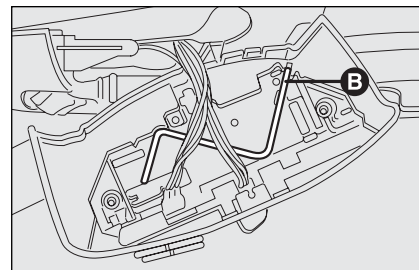
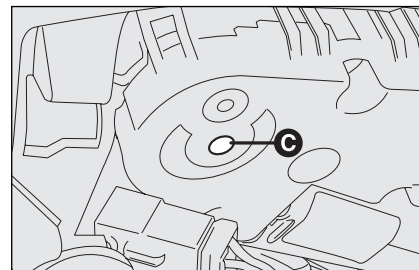

fig. 83
fig. 84
- ☐ pushing knob **A-fig. 83** upwards (reset previously stopped movement);
- ☐ insert the proper emergency key **B**-fig. 83 (located inside the ceiling light) into the seat **C**-fig. 84;